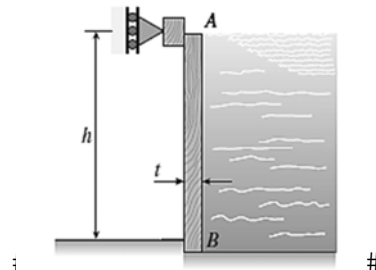

Fig. 5
5. A small dam of height  $h = 2.0$  m is constructed of vertical wood beams  $AB$ . Consider the beams to be simply supported at the top and bottom. Draw the shear and moment diagrams for the beam. (Fig. 5)